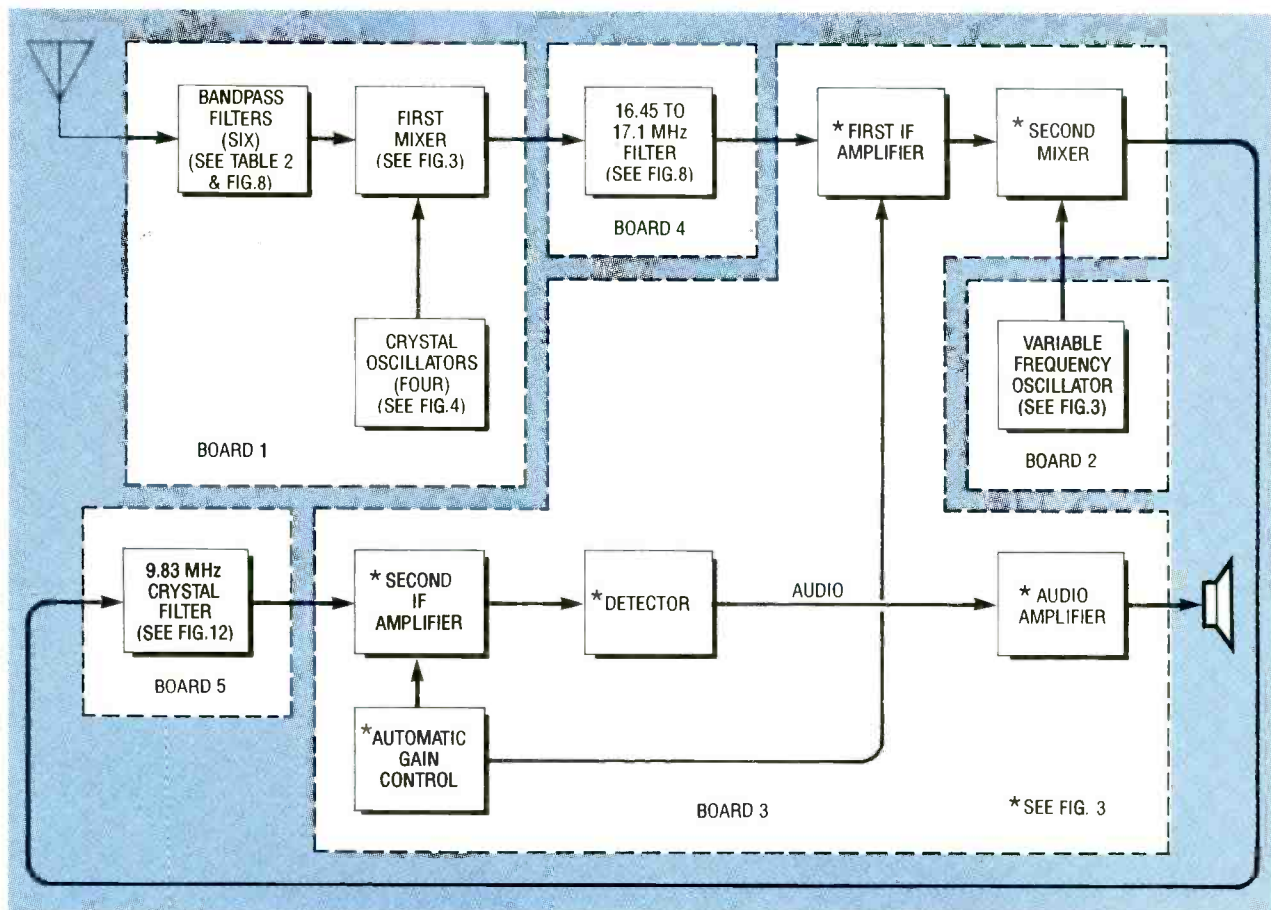
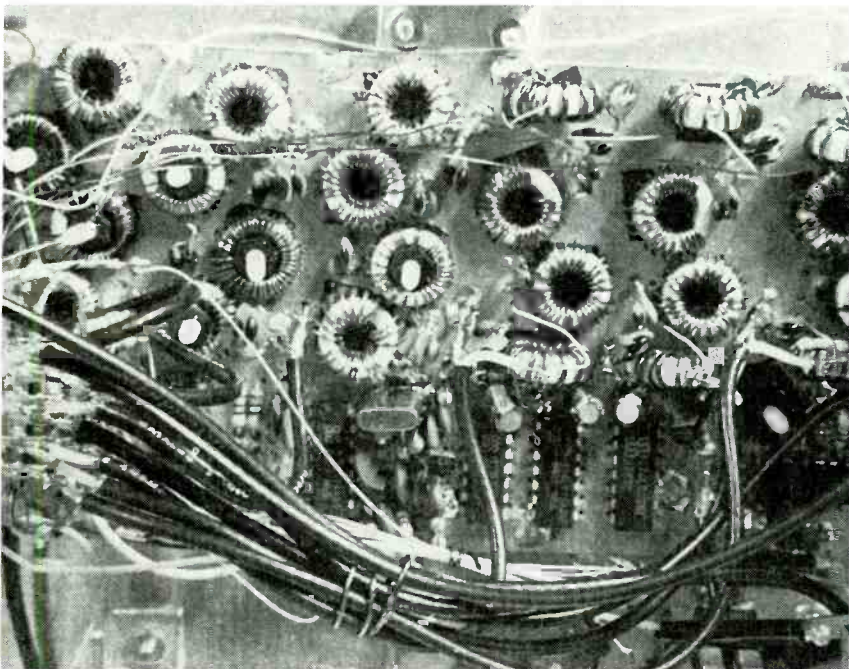

FIG. 1—FUNCTIONAL BLOCK DIAGRAM OF SWX6 RECEIVER showing the partitioning of circuits on three principal circuit boards.
FIG. 5—FILTER/MIXER BOARD layout with coaxial cabling and other wiring to the band switch shown in foreground
Figure 1 is a simplified block diagram of the receiver. The incoming radio frequency (RF) is filtered by the bandpass filter and mixed with the output of the crystal oscillator in the first mixer. After passing through the 16.45 to 17.1 MHz filter and being amplified by the first intermediate-frequency (IF) amplifier, the signal is mixed with the output of the variable frequency oscillator (VFO) in the second mixer.
The separate bandpass filters for each of the bands are built on board 1, the largest of the five circuit boards in the receiver (see Fig. 1) shown in Fig. 5. This filter-mixer board measures 3 1/4 × 6-inches and it contains the oscillator/divider circuits for each band and the first mixer circuit. (Schematic diagrams for the bandpass filters are included along with a table of component values for the six bands later in this text.)